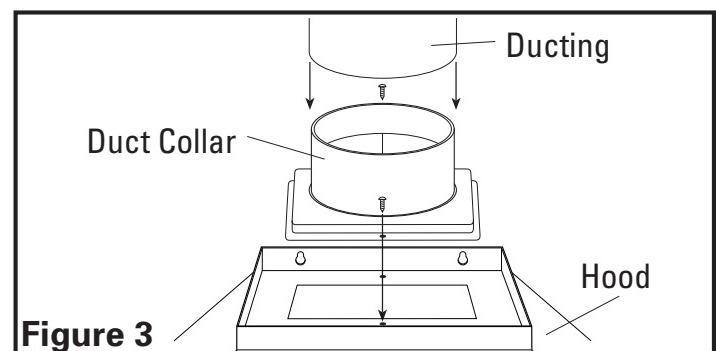

Figure 3
1. Install the included duct collar to the hood with two of the provided #6 blunt tip screws (Figure 3).
1. Connect the ducting to the duct collar and secure in place using tape to seal all joints (Figure 3).